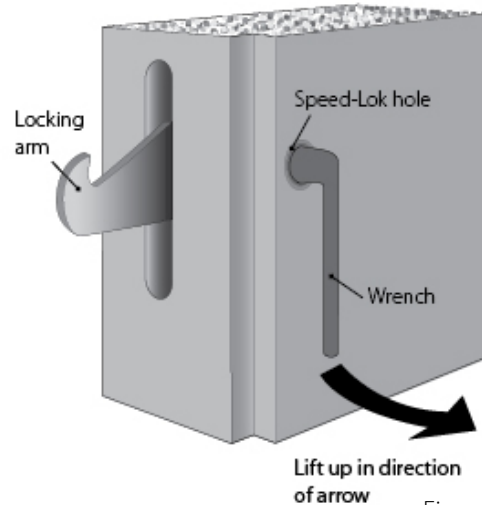

Figure 14
- D. Hold the new locking arm in position. Make sure the hook of the arm faces in the proper direction. See *Figure 14*